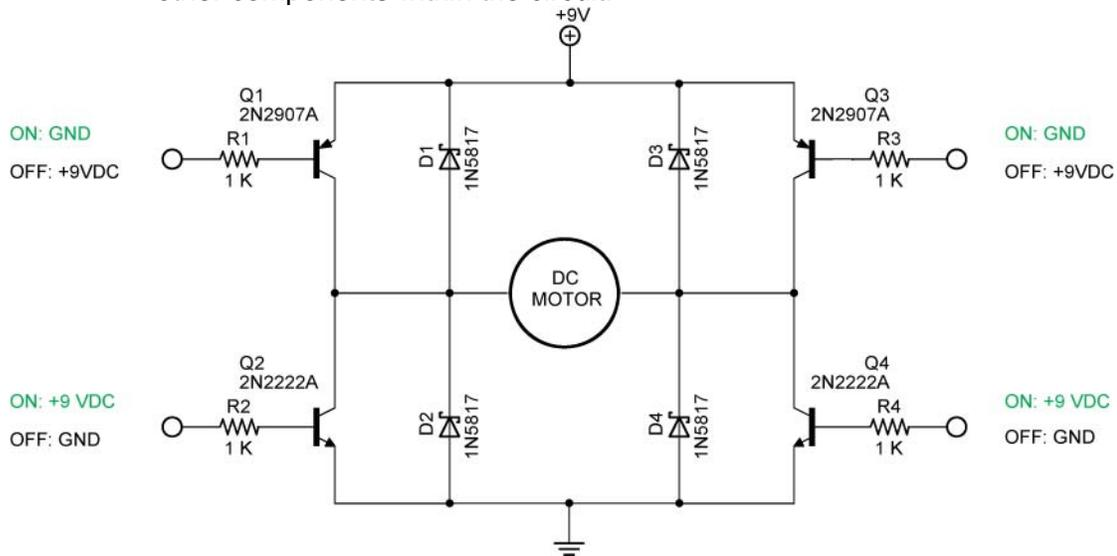

Figure 5: Bipolar NPN and PNP H-Bridge Motor Driver Circuit
- The transistors used in Figure 5 have a peak collector current of 800 mA.